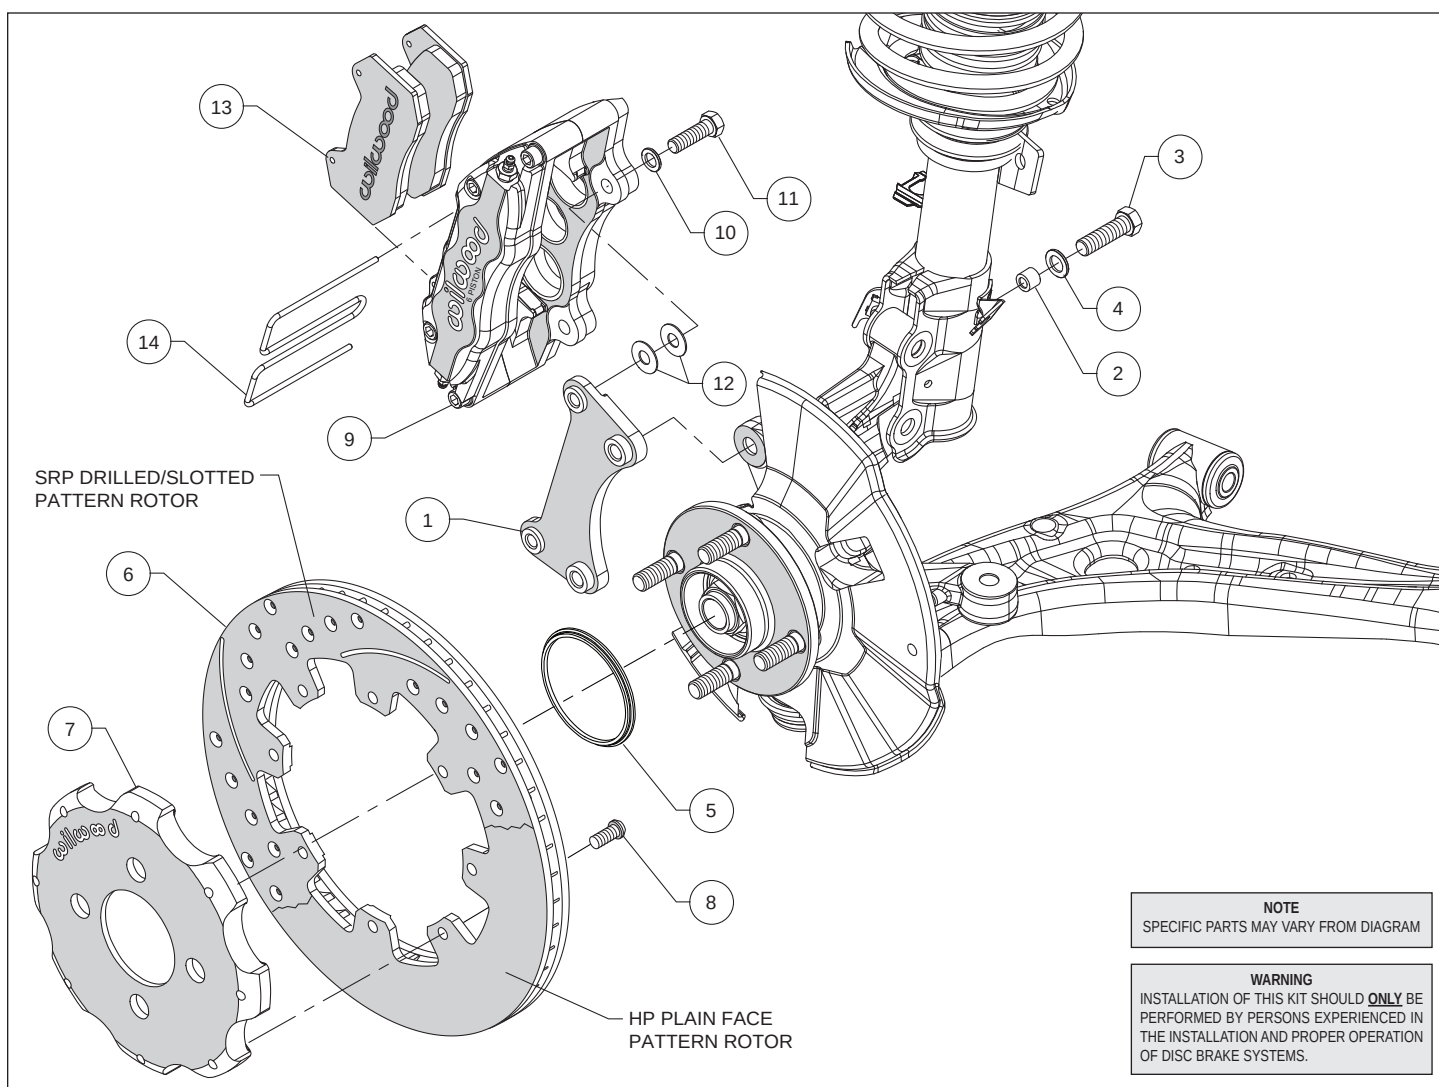

Figure 1. Typical Installation Configuration
Assembly Instructions (numbers in parenthesis refer to the parts list and Figure 1 on the preceding pages): **CAUTION:** All mounting bolts must fully engage clinch nuts. Be sure to check that all bolts are either flush or protruding through flanged side of clinch nut after shimming, Figure 3.
- Orient the caliper mount bracket (1) as shown in Figure 1 and Photo 1, and install using bolts (3) and washers (4). Insert one sleeve (2) into each of the holes in the spindle “ears” where the Original Equipment Manufacturer (OEM) caliper bracket was removed. Ensure that the flanged heads of the clinch nuts in the bracket are facing outboard, Photo 1. Temporarily tighten the mounting bolts. **NOTE:** The bracket must fit squarely against the mount bosses on the upright. Inspect for interference from casting irregularities, machining ridges, burrs, etc. Remove bolts one at a time, apply red *Loctite*® 271 to the threads and torque to 60 ft-lb.
- Orient the rotor (6) and the hat (7) as shown in Figure 1 and Photo 2. Attach rotor to hat using bolts (8). Using an alternating sequence, apply red *Loctite*® 271 to the threads, and torque to 25 ft-lb.
- Slide the rotor registration adapter (5) onto the axle register on the axle hub with the smaller O.D. facing toward the rotor/hat (6/7), Photo 3. Slide the hat/rotor assembly onto the axle hub, Photo 4. **NOTE:** The hat must fit flush against the axle hub flange or excessive rotor run out may result. Install three lug nuts (finger tight) to keep the hat/rotor assembly in place while continuing with the installation.
- NOTE:** Please reference the caution statement at the beginning of the assembly instructions. This kit contains distinct right and left hand calipers that must be mounted in a specific direction, as described below. Mount the caliper (9) onto the caliper mounting bracket (1) using bolts (11) and washers (10), as shown in Figure 1. Initially place two .035" thick shims (12) on each bolt between the caliper and the bracket, Photo 5. Ensure that the caliper is mounted so the largest pistons are at the rotor exit end of the caliper, in relation to the direction of rotor rotation. Temporarily tighten the mounting bolts and view the rotor (6) through the top opening of the caliper. The rotor should be centered in the caliper, Photo 6. If not, adjust by adding or subtracting shims between the bracket and the caliper. Always use the same amount of shims on each of the two mounting bolts. **NOTE:** The end of each bolt must be flush with or slightly protruding from the head of the clinch nut, as shown in Figure 3. If necessary place spare shims between washer (10) and caliper mounting ear to achieve the proper clinch nut engagement. Once the caliper alignment and clinch nut engagement are correct, remove the bolts one at a time, apply red *Loctite*® 271 to bolt threads, and torque to 40 ft-lb..